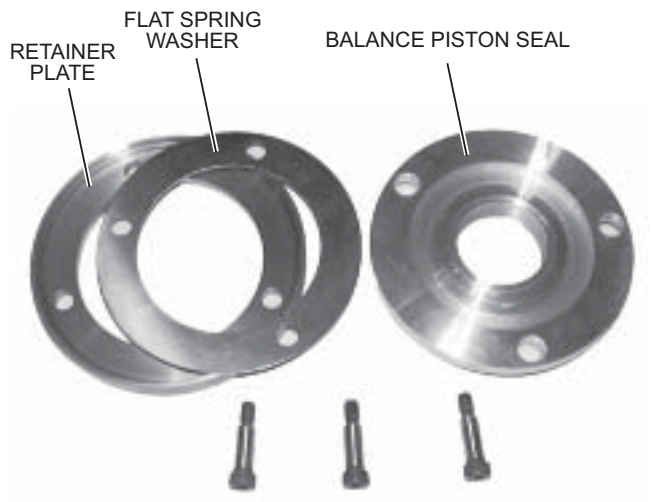

FIG. 27 – HF BALANCE PISTON SEAL ASSEMBLY
Original design balance piston seals were equipped with (8) coil springs. Current design uses (16) coil springs. All current compressor the balance piston seal uses a flat spring washer in place of the coil spring (see FIG. 27 - HF style Balance Piston Seal Assembly).